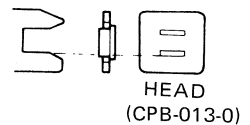

Fig. 7
2. When a program is changed over to 4, be sure the position of the head is almost at the same height as those of the lower end of the tape running and the head detection outlet (R side). (Fig. 7)